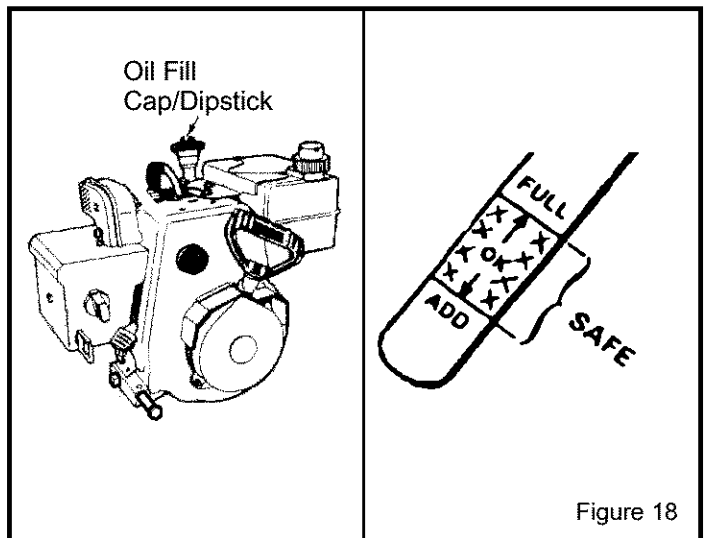

Figure 18
3. If necessary, add oil until the oil reaches the FULL mark on the oil fill/cap dipstick (see Figure 18). Do not add too much oil.